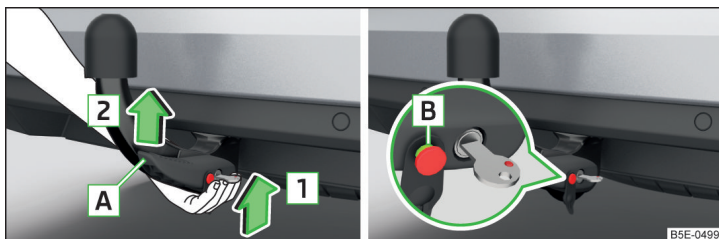

Fig. 300 Insert ball rod / trigger bolt in the extended state
- Grip the tow bar **from underneath** » Fig. 300 and insert into the mounting recess in arrow direction **1** until you hear it click into place » **!**.